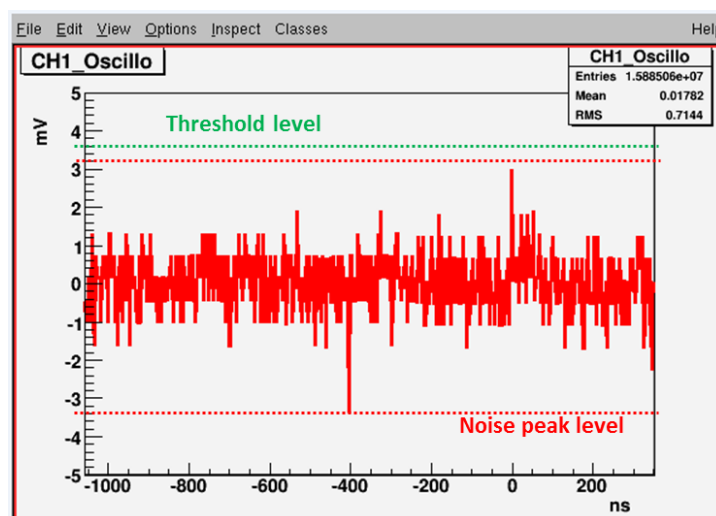

Figure 63: noise peak level
Step 5: On the un-triggered “Input Dynamic BLR” graph (Figure 63), note the noise peak level.